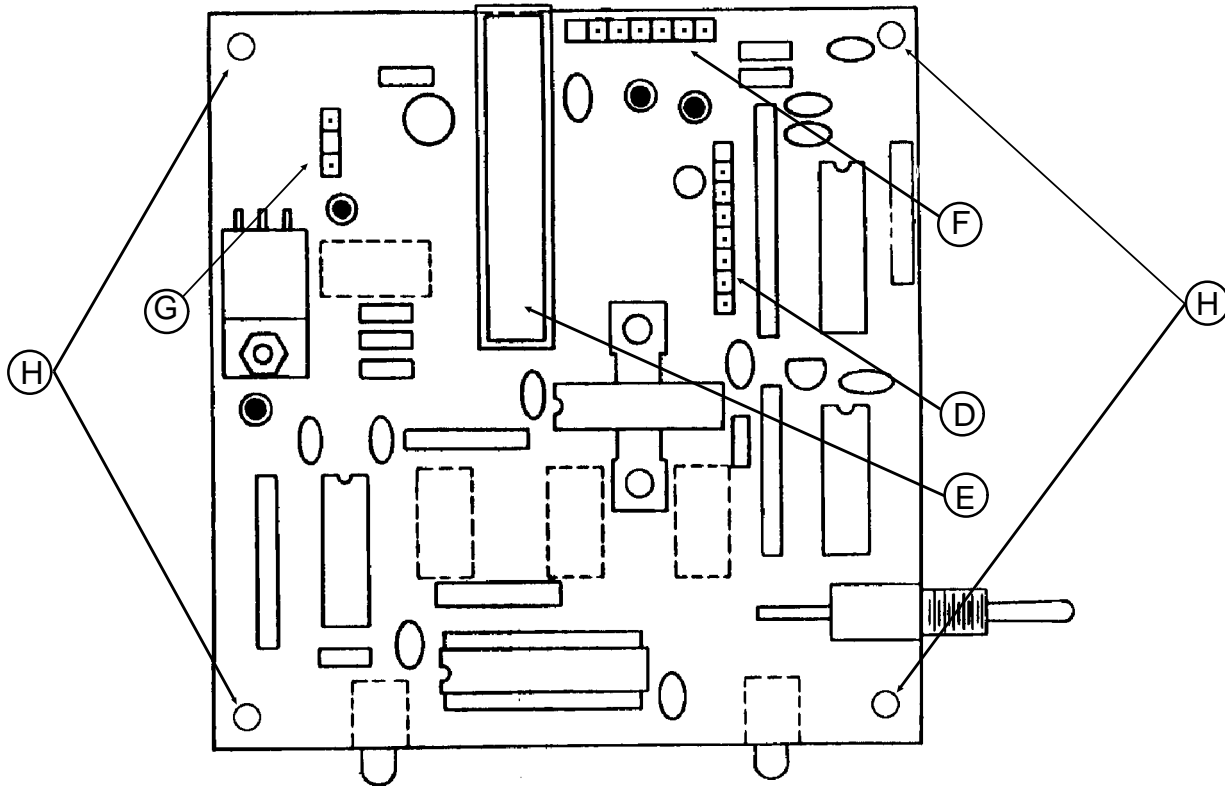

Figure 2
5. Slightly lift the Tensioner Assembly and Color Change Cover. Locate where the Tensioner Cable plugs into the Color Change Board (Figure 2-D).
NOTE: The physical appearance of the Color Change Board may vary somewhat from Figure 2, however the applicable Connectors will still be in the positions shown. Remember the orientation and position of each Cable so that you can reconnect them correctly in later steps.
7. Unplug the Head Power Cable (Figure 2-E) from the Color Change Board.
8. Unplug the Color Change Motor Cable (Figure 2-F) from the Color Change Board. The Passive or Slave heads of four-head peripherals do not have anything connected here.
9. Unplug the Jump Stitch Cable (Figure 2-G) from the Color Change Board.
10. Locate the four white Mounting Tabs (Figure 2-H) holding the Color Change Board in place. Press the center lock of each Tab in to release the Board, and lift up on the edge of the Board.